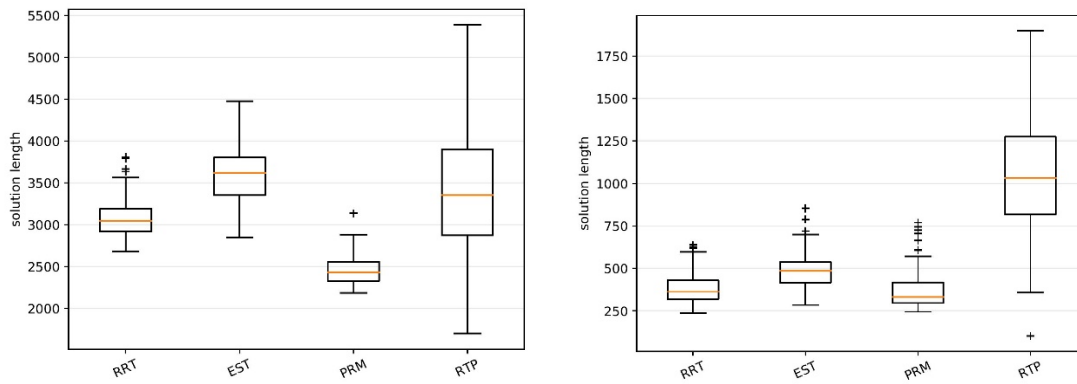

Figure 7. Path length of four planners in 3D Cubicles and Twistycool scenarios
- Path length: RTP path length is slightly longer than the other three others. Figure 7 shows the path length of each planner.